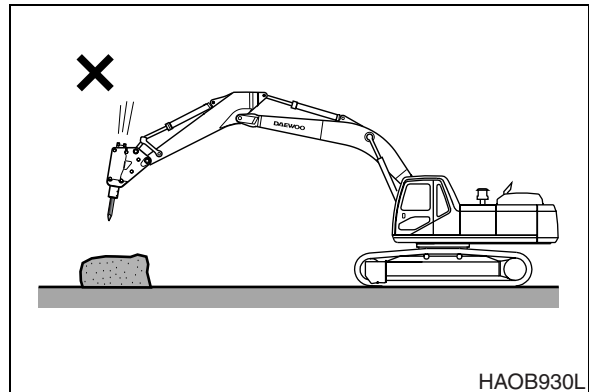

Figure 71
3. Do not use the breaker as a hammer. See Figure 71.